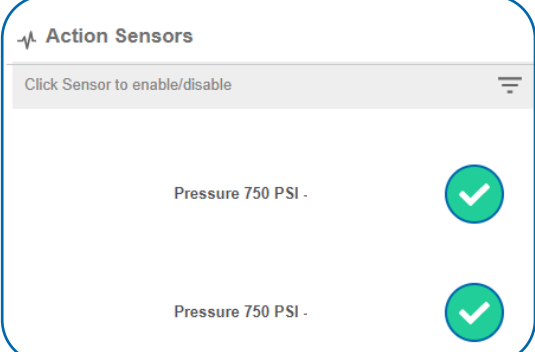

Figure 28
- By default, the sensor(s) will not be assigned to the Action conditions you've just set. To assign a sensor, find the device(s) you want to designate for this Action and select. Selected sensor boxes will turn green when activated. Choose the sensor box again to unassign the sensor from the Action. See Figure 28.